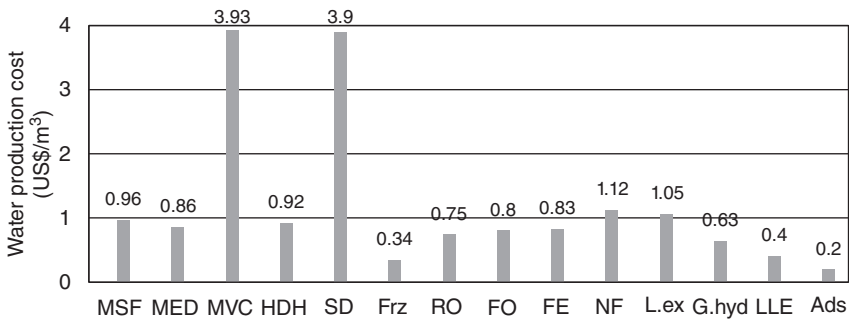

Figure 1.5 Cost of potable water production using different desalination technologies. Source: Youssef et al. 2014 [3]. Reproduced with permission of Elsevier.
3. Cost: The third parameter that must be considered during desalination selection is the cost of freshwater production (Figure 1.5).